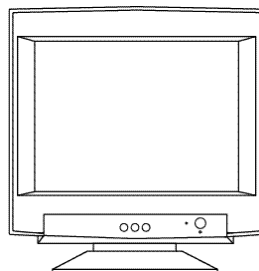

Figure D.1
- 5 Turn on the monitor (Figure D.1) and the computer.